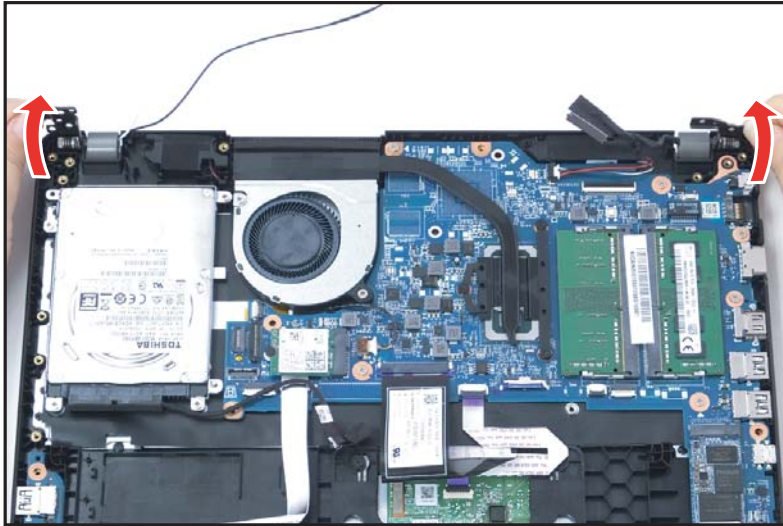

Figure 1-32. LCD Module Removal
7. Close the top assembly and lift both LCD hinges until they are fully extended (Figure 1-32).